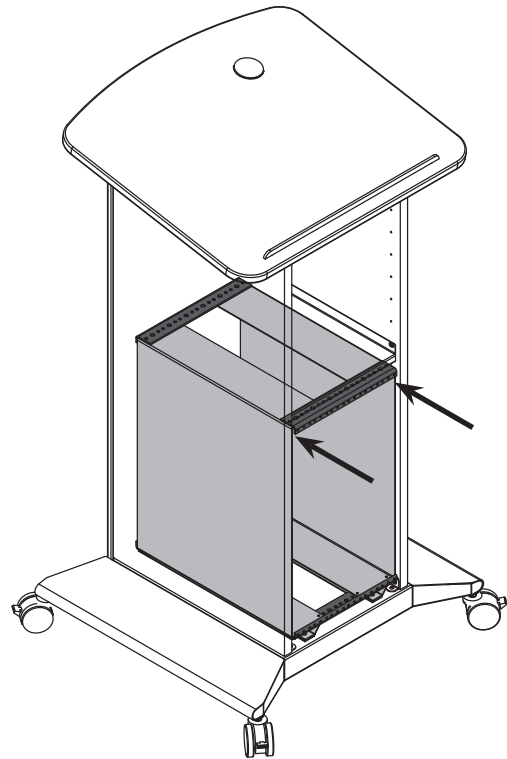

Figure 3.1
1. Place the cube assembly onto the base panel of lectern. **Figure 3.1.**